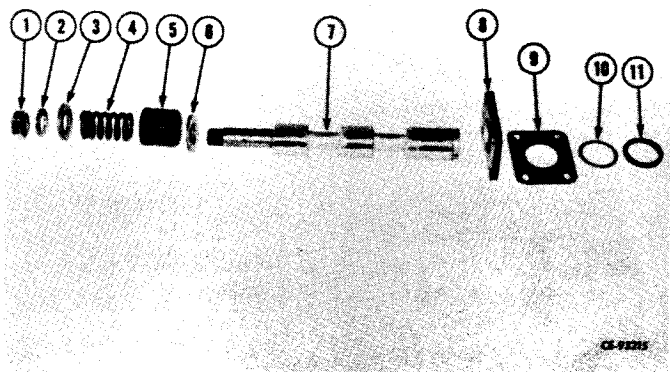

Figure 11-73
Slide the plunger assembly from the valve. Remove the back-up ring (10, Fig. 11-73), shim pack (9) and spacer (8) from the plunger (7).